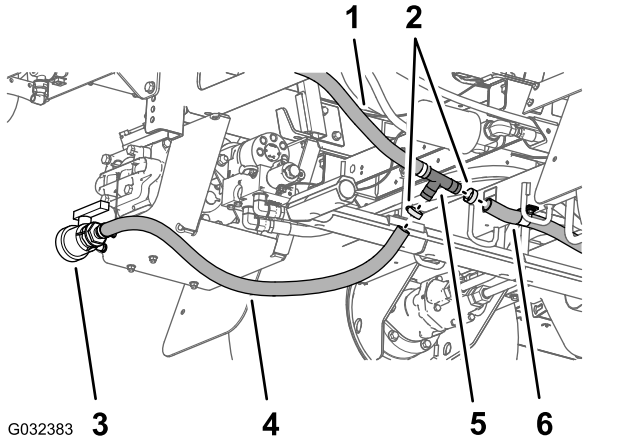
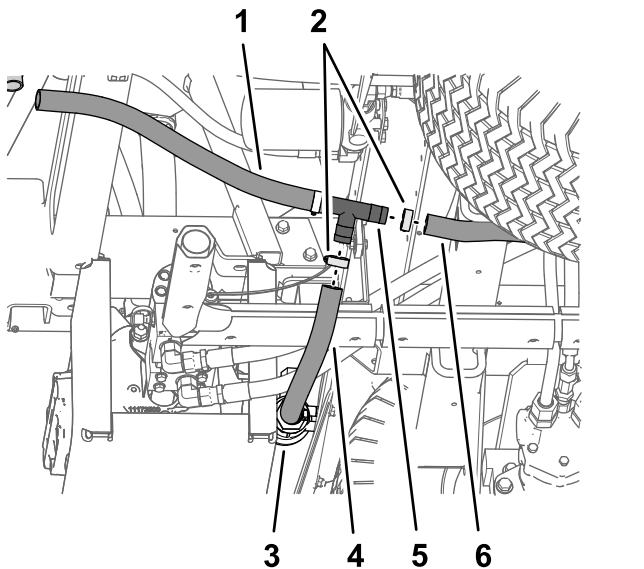

Figure 42
Figure 43
- Remove the hose clamps that secure the drain-valve hose and the rear tank-drain hose to the barbed T-fitting (Figure 42 and Figure 43).
- Remove the T-fitting from the drain-valve hose from the rear tank-drain hose (Figure 42 and Figure 43).